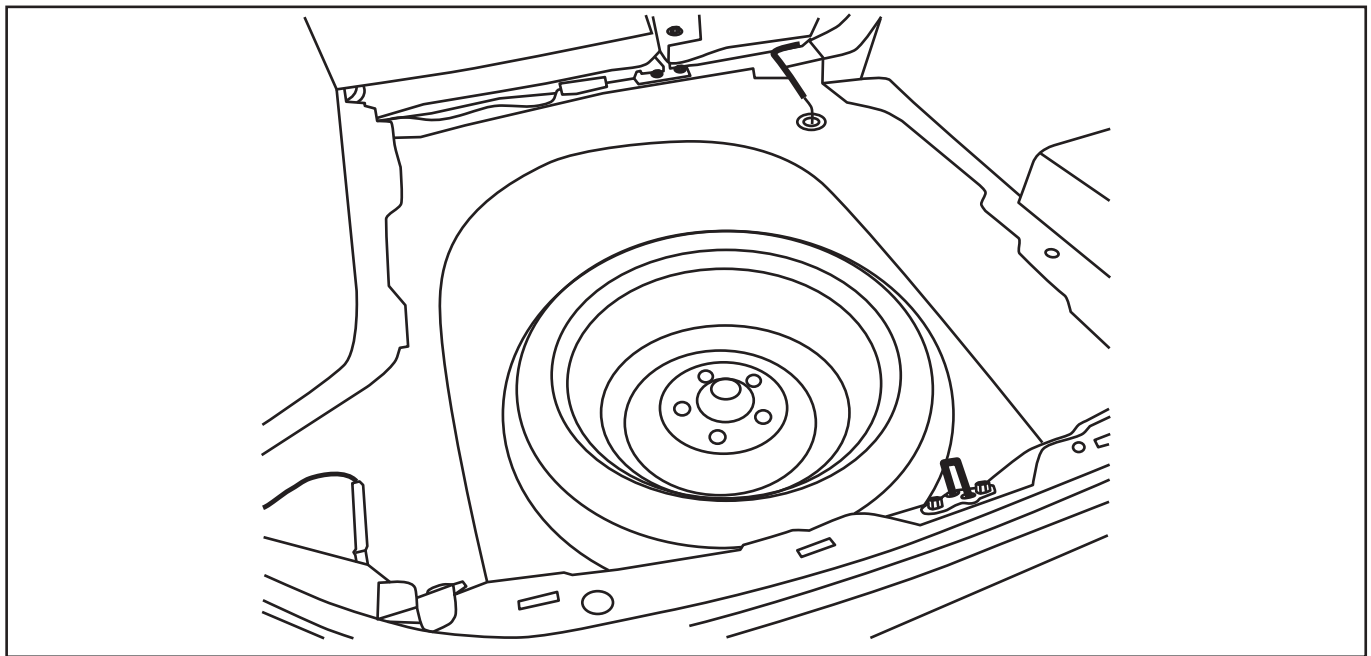

Fig. 7
9. Remove foam pieces from trunk floor (Fig. 7).